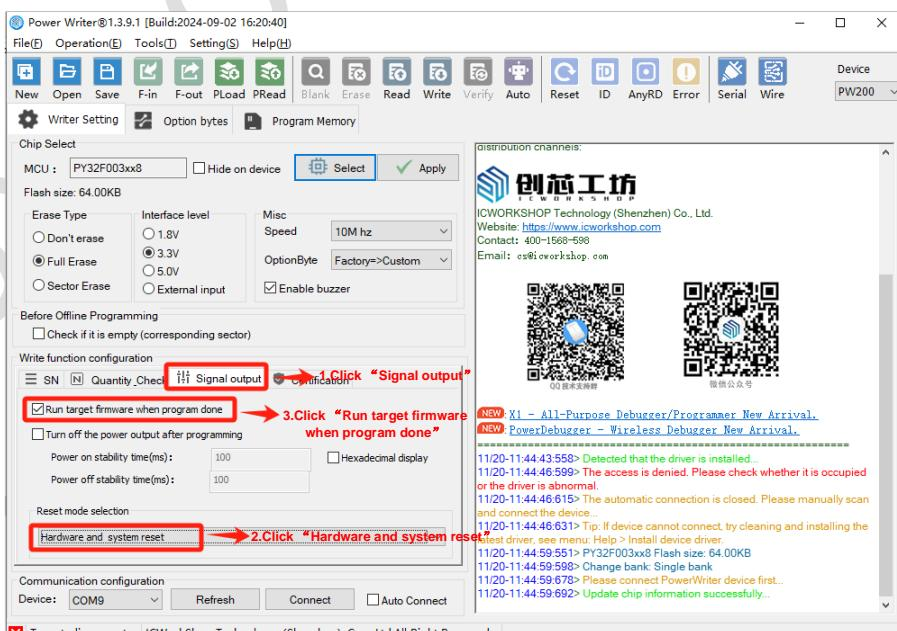
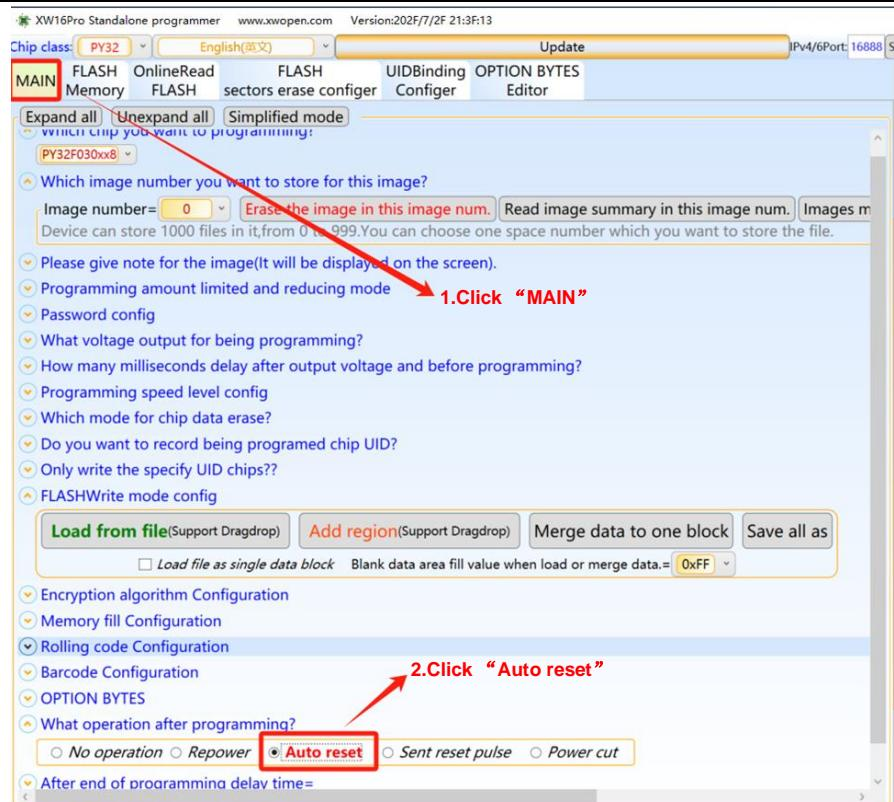

Figure 13-3 Power Write Operation Tick ‘Reboot Chip After Programming’
Figure 13-4 XW Operation 'Smart Reset'
- When configuring the Option of the programmer, you need to check the "Smart Reset" function or "Restart the chip after programming" (programmers typically have similar options that need to be selected). The specific steps are shown in Figures 13-3, Figure 13-4.